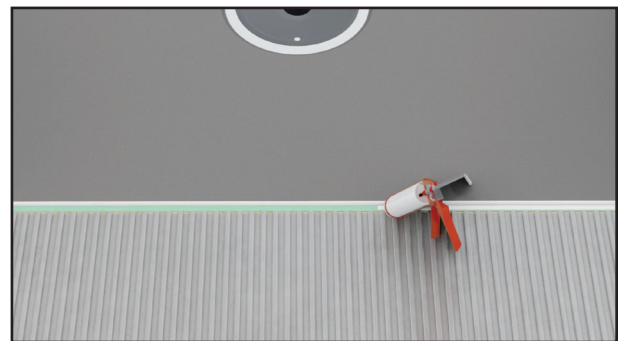

Fig. 18
3. Apply a continuous bead of HYDRO-BLOK Joint Sealant along the Shower Pan notch (Figs. 18 & 19).
4. Apply modified thinset to the subfloor with a ¼" notch trowel staying 1" away from the Pan. Trowel marks should be straight and running perpendicular to the pan to allow air to escape (Figs. 18 & 19).